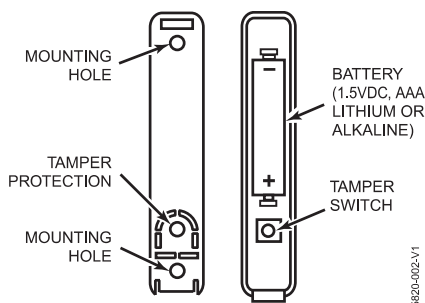

Figure 2. 5820L Mounting/Battery Location
Front and back-case tamper is provided using the same switch. The front-case tamper is always enabled. Adding the third screw as shown in Figure 2 enables the back-case tamper.
4. Install **mounting** screws in the two outside mounting holes as shown in Figure 2 using a #1 Phillips.
1. **Observe correct polarity and insert the battery** provided into the battery retainer clips as shown in Figure 2.